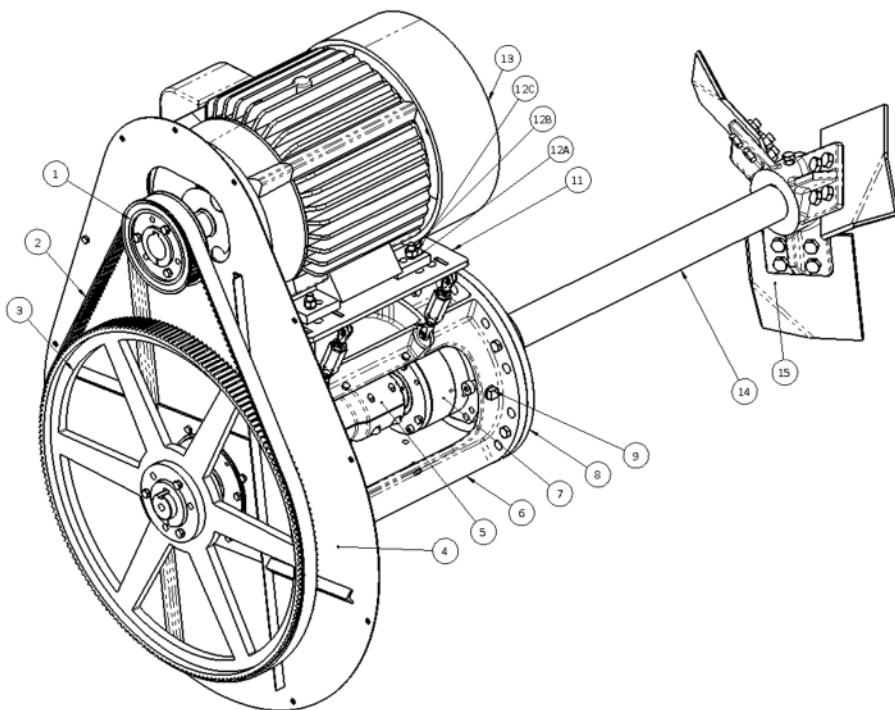
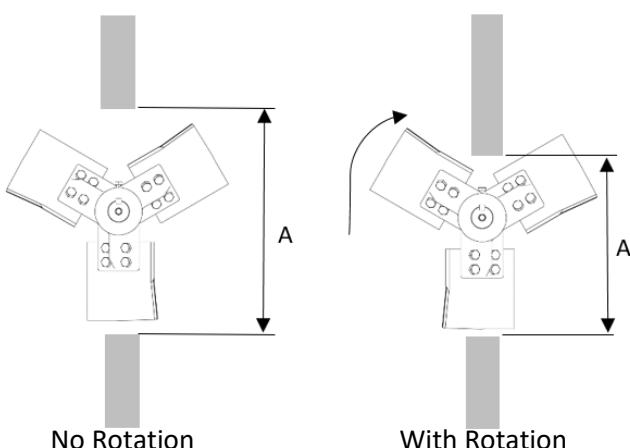

Figure 6: Fixed Mixer Assembly (Belt guard Removed)
Figure 7: Impeller Rotational Installation
1. Remove the outer belt guard, belt, and motor [30 (Figure 6), 2, 13] as necessary to ease installation. Note that small flange openings may require removal of the impeller [15] prior to agitator installation. For larger flange openings, the impeller can remain installed on the shaft by carefully rotating the shaft as the impeller passes through the tank flange opening. Verify the torque value on the set screw [29 (Figure 14)] and washer bolt [26 (Figure 14)] prior to installation if the hub will not be removed. See **Figure 7**.
| | Note! The impeller assembly may be removed and installed inside the tank for smaller flange openings. In some cases, you can rotate the shaft to install the impeller without removing it from the shaft as shown in Figure 7 . |
4. Install motor **[13 (Figure 6)]** onto motor mount **[11]**, and secure using supplied fasteners **[12A, 12B, 12C]**. Torque in an alternating pattern to the value specified in the Appendix, page 50.